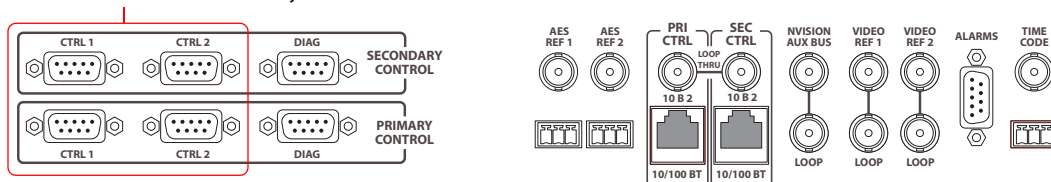

Figure 3-8. Serial Connections to Router Control System (Rear View)
- 1 Locate the serial control connections on the rear of the router, as shown in Figure 3-8. Serial control connections are labeled ‘PRIMARY CONTROL’ for the primary control card and ‘SECONDARY CONTROL’ for the secondary control card.